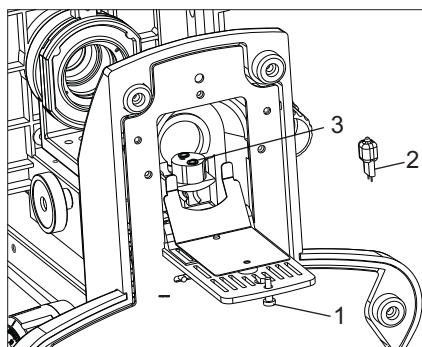

Fig. 11
1. Pull the lock knob (1) on the bottom to open lamp housing door (fig. 11).
2. Hold the halogen bulb (2) without taking it out of the polyethylene bag so as not to taint the bulb with fingerprints and push the bulb into the pin holes on the socket (3). After attaching, remove the polyethylene bag.